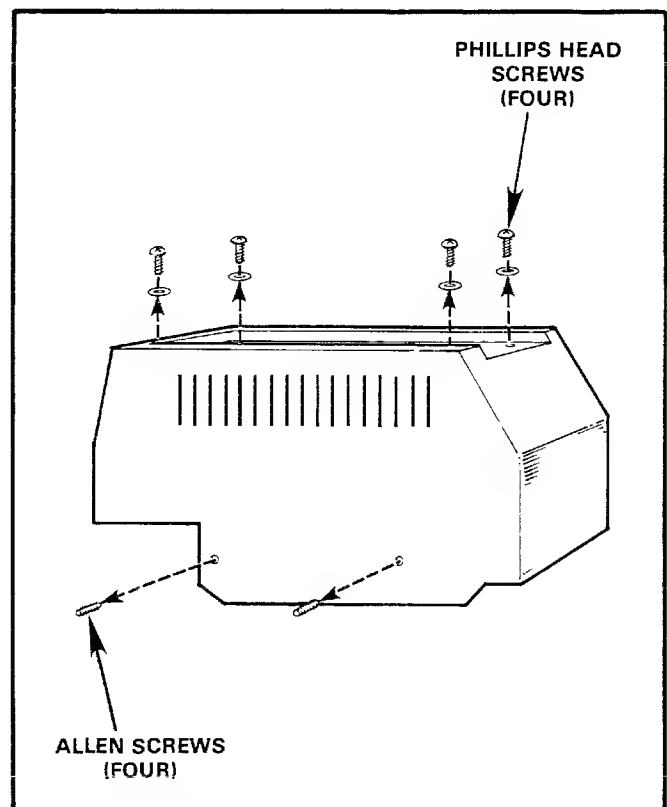

Figure 4-1. LogicPak™ Cover Removal
2. Remove the four phillips-head screws from the LogicPak™ cover (see figure 4-1).
3. Remove the two allen screws on each side of the LogicPak™ cover (see figure 4-1).